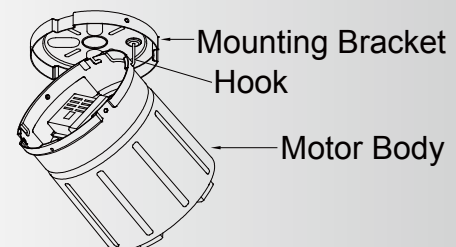

Fig. 7
Step 3. Hook the motor body onto the mounting bracket as shown. You can now proceed with the electrical wiring of your fan. (Fig. 7)